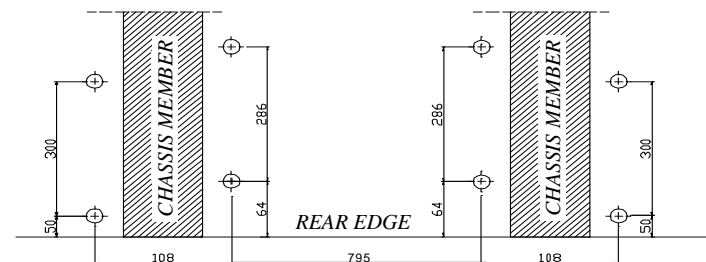

Fig. 1. Underneath view after bumper disassembly.
2. Underneath the car mark points according to figure 1. Next drill holes using bit  $\varnothing 11\text{mm}$ , make very carefully.
3. Inside the trunk put suitable upper fish-plates (pos.8).
4. Underneath the car put side brackets (pos. 4 and 5) and through holes (pos. A) and fish-plates (pos. 8) fix using bolts M10x35mm (pos. 11).
5. Underneath the car put fish-plates (pos. 6 and 7), next through holes (pos. B) and fish-plates (pos. 8) fix using bolts M10x35mm (pos. 11) .
6. Through holes (pos. C) fix main bar of the towbar (pos. 1) with side brackets using bolts M12x35mm (pos. 10).
9. Fix tow-ball (pos. 2) and socket plate (pos. 3) by bolts M12x75mm (pos. 7) from accessories.